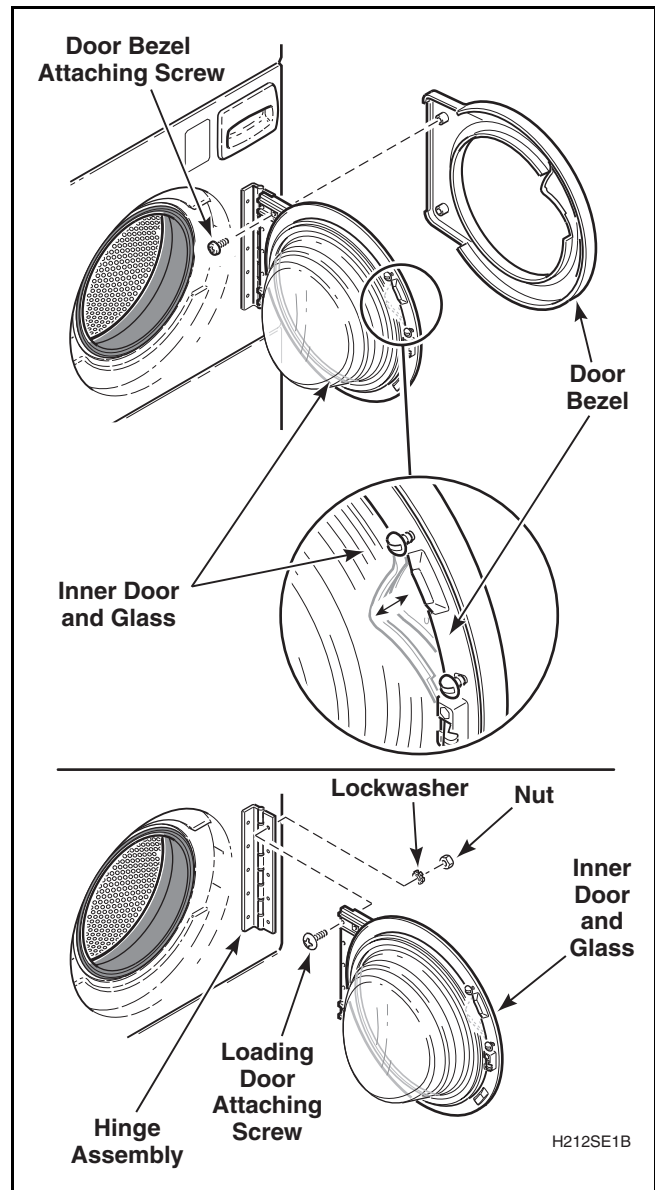

Figure 45
- Remove door bezel to gain access to nuts. Refer to *Figure 45*.
- The loading door can be adjusted up or down somewhat by loosening screws holding door to hinge, then raise or lower door before retightening screws. Refer to *Figure 45*.
- a. Remove door bezel. Refer to *Figure 45*